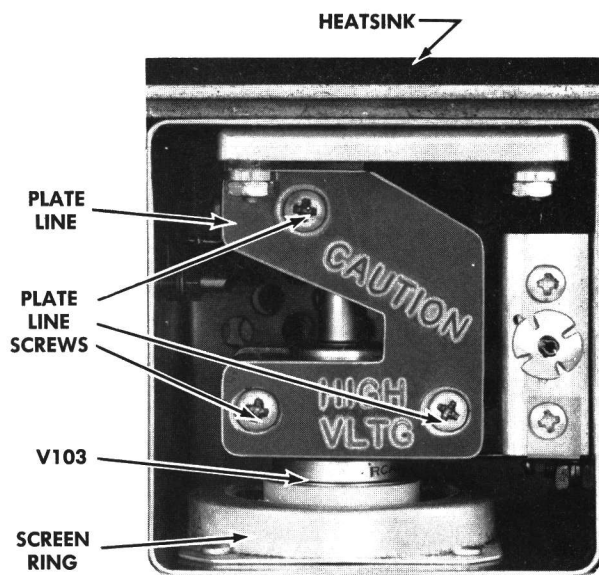

Figure 4 - PA Plate Box With Cover Removed
2. Remove the top cover on the AMPL PLATE box (figure 4). Allow the transmitter to cool if necessary.